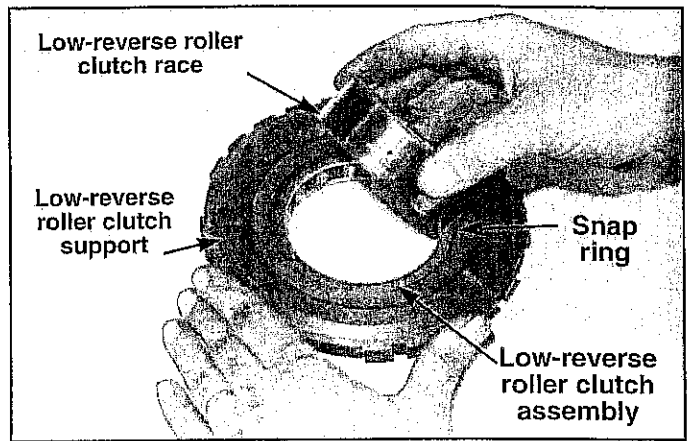

FIGURE 14
STEP 22. Remove the race from the center of the roller clutch assembly. The race pulls right out. (See Fig. 14) Set the race in the oil pan. Remove the front snap ring from the roller clutch support. Remove the low and reverse clutch assembly from the support. Remove the rollers from the cage. Set the snap ring, roller and cage in the oil pan. Set the support aside.